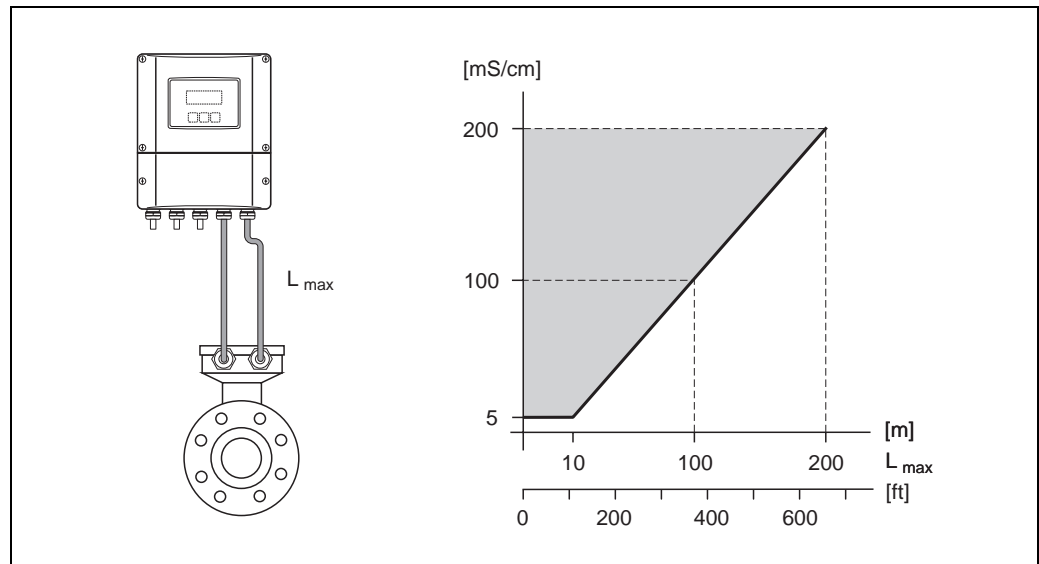

Fig. 17: Permissible cable lengths for the remote version
- The permissible cable length  $L_{max}$  depends on the fluid conductivity (Fig. 17). A minimum conductivity of  $20 \mu\text{S}/\text{cm}$  is required for measuring demineralized water.